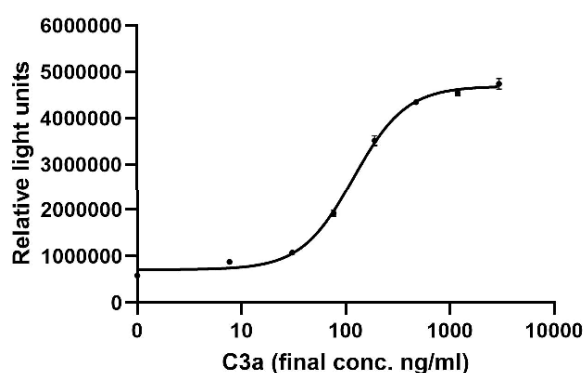

Figure 1. Example of C3a calibration curve.
The *iLite*[®] C3a Assay Ready Cells are engineered cells, optimized to express Firefly luciferase (FL) under the control of a C3a responsive promoter and exhibits a dose-dependent increase in firefly luciferase (FL) reporter gene activity following treatment of cells with increasing concentrations of human C3a. (Fig.1). The cells also contain the Renilla luciferase (RL) internal standardization gene under the control of a constitutive promoter that renders assay results independent of cell number and provides a means for correcting for cytotoxic effects that may be encountered with some biological samples.